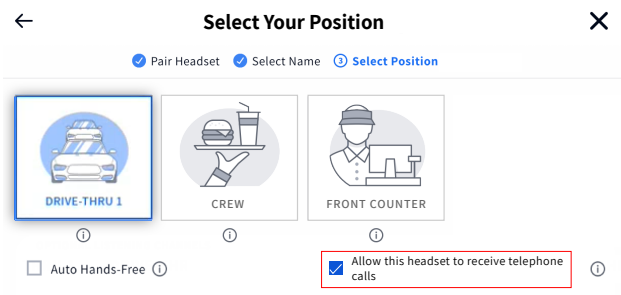

Fig. 12.5
4. When the **Select Your Position** dialog appears, select a position and check the box labeled **Allow this headset to receive telephone calls**. See Fig. 12.5. (Since only one headset can be designated to receive phone calls, checking the box forces any previous headset assigned out of this mode.)